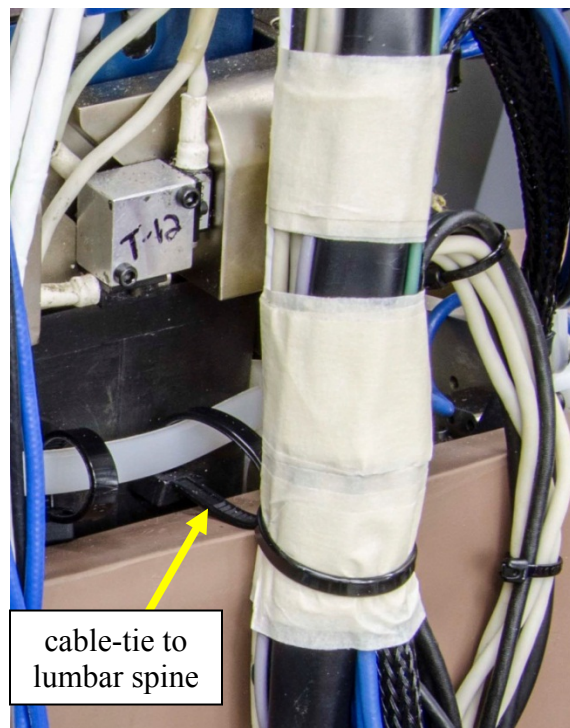
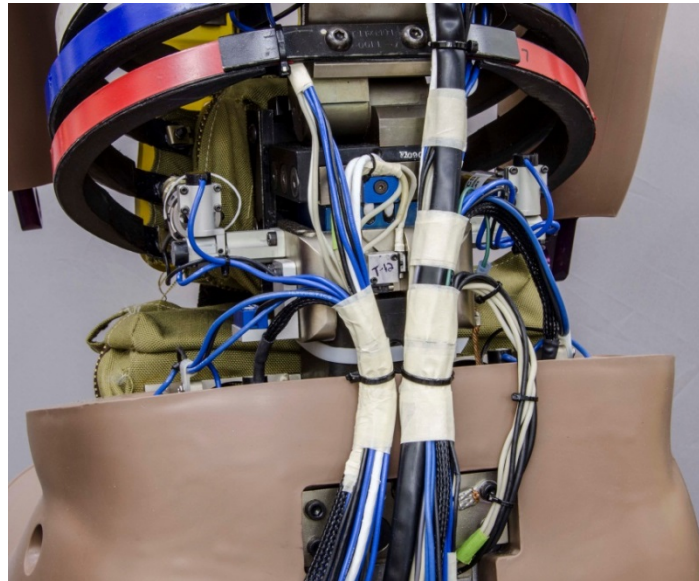

Figure 15-31. Cable-tie large bundle to lumbar spine
Figure 15-33. Bundle the left side wiring together
15.4.3.4 To protect the wires, wrap the wiring bundle with tape at the level of the lumbar spine cable-tie. Cable-tie the large bundle of wires to the lumbar spine as illustrated in Figure 15-31.
15.4.4.1 Bundle wiring from the left side of the dummy with masking tape (Figure 15-33). Use a small tie-wrap to anchor this bundle to the left side of the spine in similar fashion to Figure 15-31.